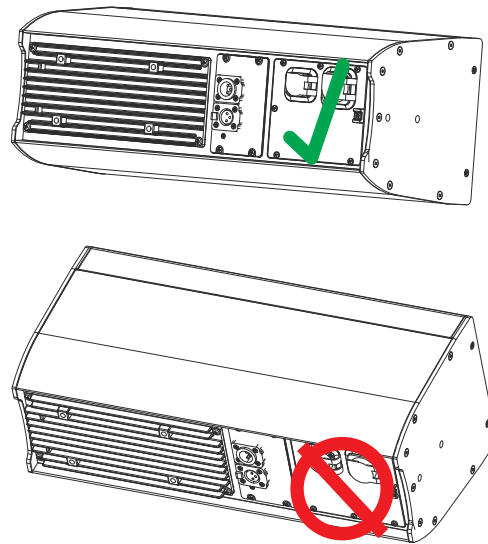
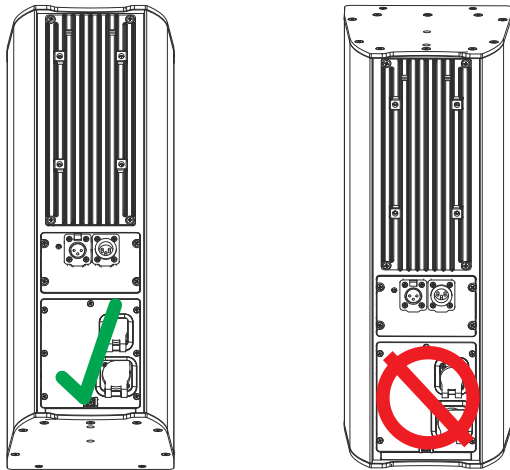

Figure 52: Downtilt Permissible (top); Uptilt **NOT** Permissible (bottom)
Figure 53: Downtilt Permissible (left); Uptilt **NOT** Permissible (right)
**CAUTION:** The weather-protected ULTRA-X20/22/23 loudspeaker must be mounted with a 0° tilt, or preferably with a slight downtilt with the cables exiting from the bottom. This angle shields the driver from the elements and does not allow water to accumulate in the cabinet. Do not tilt the cabinet up, as the drivers and cabinet might accumulate water. (Figure 52 and Figure 53).